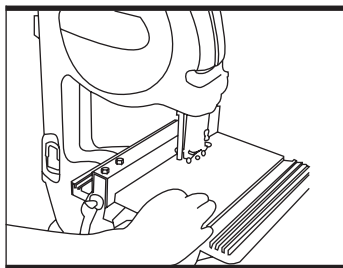

Fig 18
- For all cutting operations it is important to position the blade guide (6) as close as possible to the workpiece (see assembly 5).
- It will be better and safer to guide the workpiece with push stick, holding workpiece flat on the table (20) in order to prevent the blade (23) from jamming.
- Always use the rip fence (14) or the mitre gauge (21) on all cuts for which they are intended.
- Always aim at making a complete cut in one pass rather than in a stop-and-go operation requiring the workpiece to be withdrawn. If you have to withdraw the workpiece, switch off the band saw first and wait for the blade (23) to stop before freeing the workpiece.
1. Longitudinal cuts (See Fig 18)